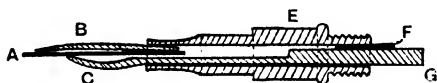

Fig. 357.—Longitudinal Section through Nib End of Fountain Pen.
**Adjusting Ink Flow in Fountain Pen.**—The ink flow, if excessive, may be lessened by inserting small thin vulcanite wedges like F farther round G (Fig. 357), or it may be increased by filing or otherwise making a flat on G along its entire length. A pen that blots when held still point down should be given less flow. One that runs short in rapid writing wants more. A pen that fails to mark a rapid horizontal line when the nib point is very lightly run across the paper requires the ink to be conducted nearer to the nib point by increasing the length of the top feeder, or if the top feeder is long enough it must be given more top flow by enlarging the hollow into which the top feeder is wedged, or by narrowing the top feeder where wedged in so as to leave more ink space; or the top feeder may lie too close to the nib, leaving no ink space.
**Feeders of Fountain Pens.**—Fig. 357 shows the form of the feeders and the way they are
**Stylograph Pen: Converting.**—An unsuccessful stylo can be converted into a successful fountain pen with a little trouble. First, saw off the point as shown by the dotted line in Fig. 363. Open out the central hole by filing or otherwise, parallel and true. Cut two nicks, one on each side, to take the nib, which should then be pushed in tight. A gold nib with iridium point can be purchased from a fountain-pen shop. Procure a vulcanite knitting-needle and make two feeders, as in Fig. 357. The pen part is then complete, but the reservoir remains to be altered, and, as a rule, is